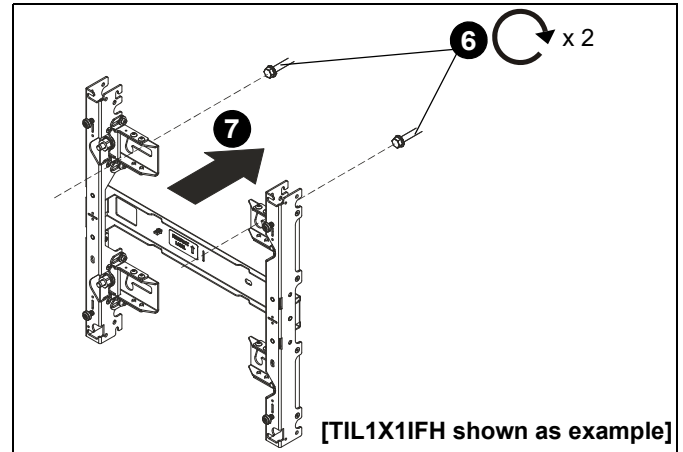

Figure 6
- Partially install two lag screws into wall, but do NOT completely tighten to wall. (See Figure 6)
- Hang wall mount, aligning upper mounting slots over fasteners, and adjust side-to-side for proper location. (See Figure 6)